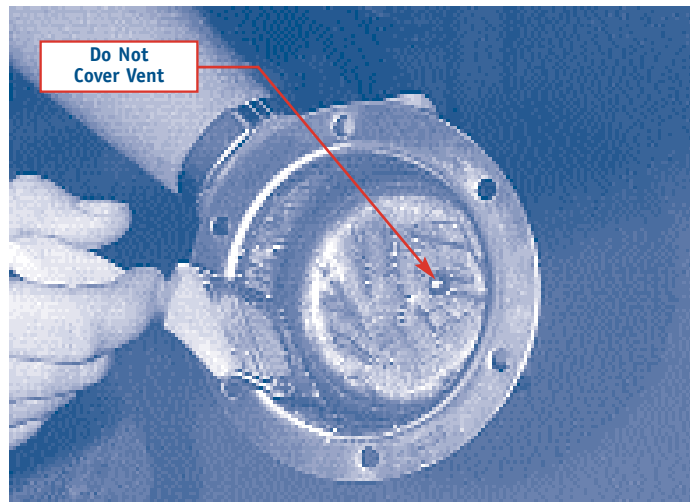

Figure 2 Coating Inside of Stamped Steel Hub Cap
1. Using a clean brush or your hand (Figure 2), wipe the inner surfaces of the stamped hub cap with a thin layer of lubricant until all areas are covered as shown. **DO NOT COVER THE VENT MECHANISM WITH LUBRICANT!** This will result in “filming” or seepage of lubricant from the vent onto the external face of the hub cap during initial operation, and may clog the vent in some cases.